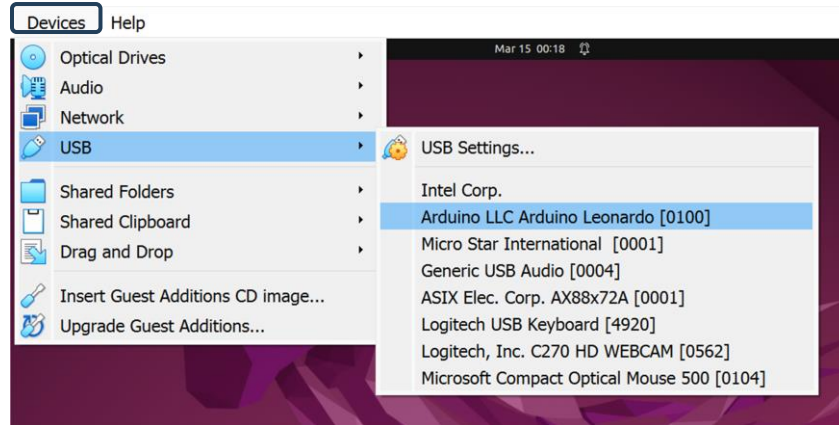

Figure 4: Zumo Connection in Oracle VM VirtualBox
- Connect the Zumo 32U4 robot to the computer using the USB A to Micro-B cable. If you are using Oracle VM VirtualBox, you need to establish the connection manually as shown in Fig. 4, where you will choose Arduino LLC Arduino Leonardo [0100].